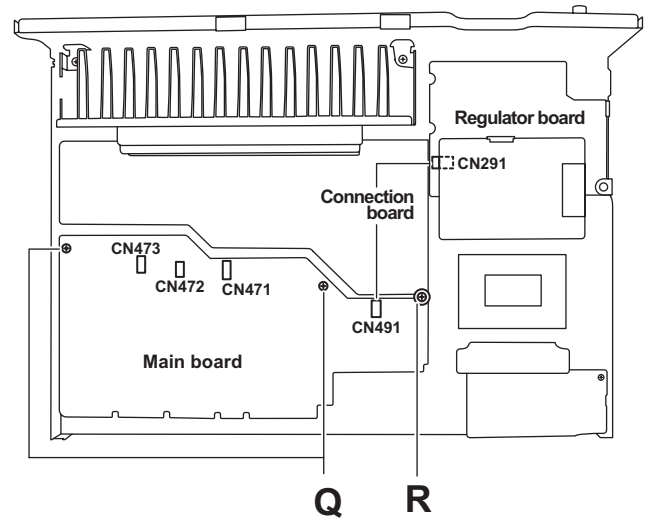

Fig.9
3.1.4 Removing the main board (See Fig. 9)